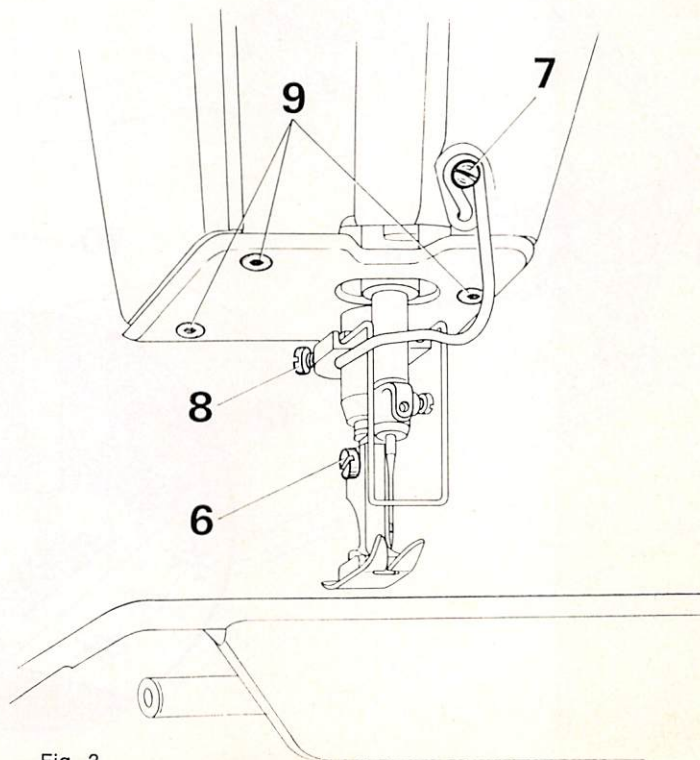

Fig. 3
1.3 Removing Various Parts before Adjusting the Needle Bar (Fig. 3)